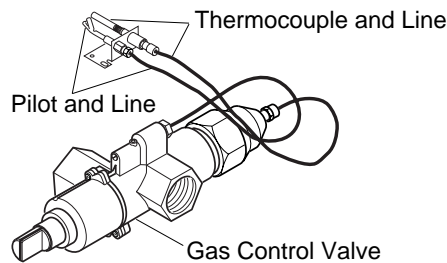

Figure 12 - Gas Control Valve with Thermocouple and Pilot
2. Attach the pilot gas line to the pilot outlet of the gas control valve and tighten. Connect the thermocouple to the rear of the gas control valve (see Figure 12). Do not overtighten. If using propane/LP gas, see *Changing Pilot Orifice*, page 11.